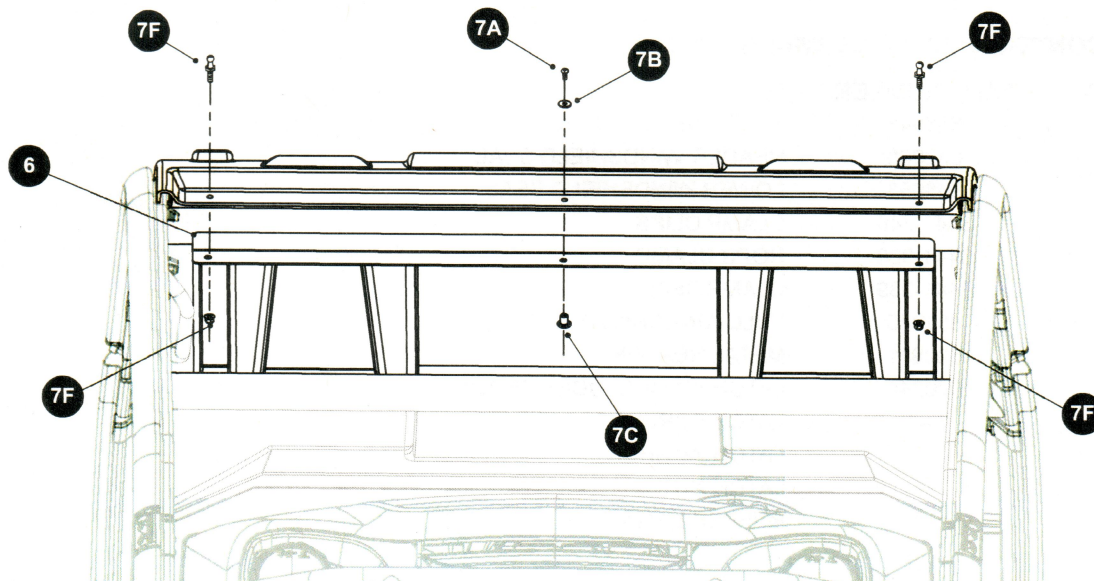

Fig. 1
1. Place the top of the windshield header (6) flush to the bottom side of the canopy.
2. Use the header pins (7F) and latch fasteners (7A, 7B, and 7C) to install windshield header (6), as shown in Fig. 1. Finger tighten header pins (7F) until end of installation.
NOTICE: Figure 1 demonstrates formation for Split Windshield (682912). For Full Windshield (682913) use three latch fasteners (7A, 7B, and 7C) across header.